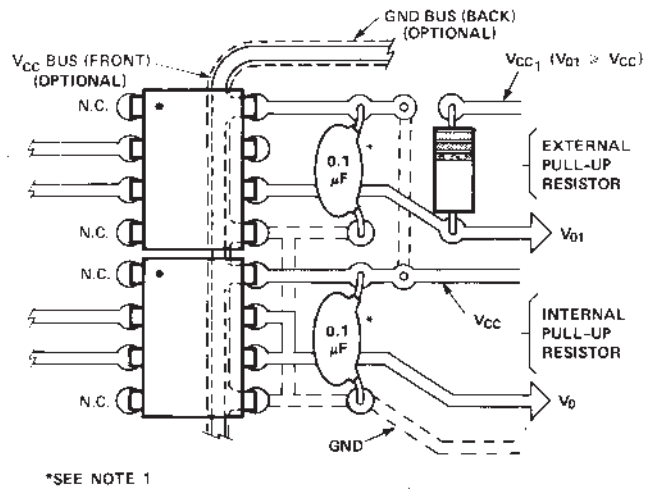

Figure 19. Recommended printed circuit board layout.
- By-passing the power supply line is required with a $0.1 \mu\text{F}$ ceramic disc capacitor adjacent to each optocoupler as illustrated in Figure 19. The power supply bus for the optocoupler(s) should be separate from the bus for any active loads, otherwise a larger value of bypass capacitor (up to $0.5 \mu\text{F}$) may be needed to suppress regenerative feedback via the power supply.
A recommended layout for use with an internal 1000 Ω resistor or an external pull-up resistor and required V_{CC} bypass capacitor is given in Figure 19. V_{CC1} is used with an external pull-up resistor for output voltage levels (V_O) greater than or equal to 5 V. As illustrated in Figure 19, an optional V_{CC} and GND trace can be located between the input and the output leads of the HCPL-2300/HCPL-0300 to provide additional noise immunity at the compromise of insulation capability (V_{I-O}).